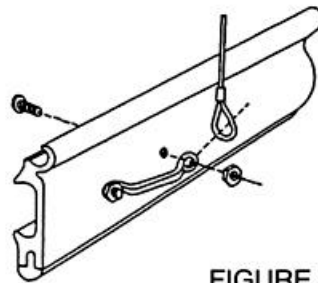

FIGURE 2
1. HAVE ONE MAN INSIDE BAY TIGHTLY HOLD LARGE MOVABLE TUBE OF COUNTERBALANCE (see Figure 1). **WARNING! FAILURE TO SECURE LARGE MOVEABLE TUBE OF COUNTERBALANCE COULD RESULT IN INJURY IF COUNTERBALANCE IS ALLOWED TO RAPIDLY UNWIND.** Have second man unbolt one end of footman's loop at bottom of door, loosen bolt on other end, and remove cable (see Figure 2).